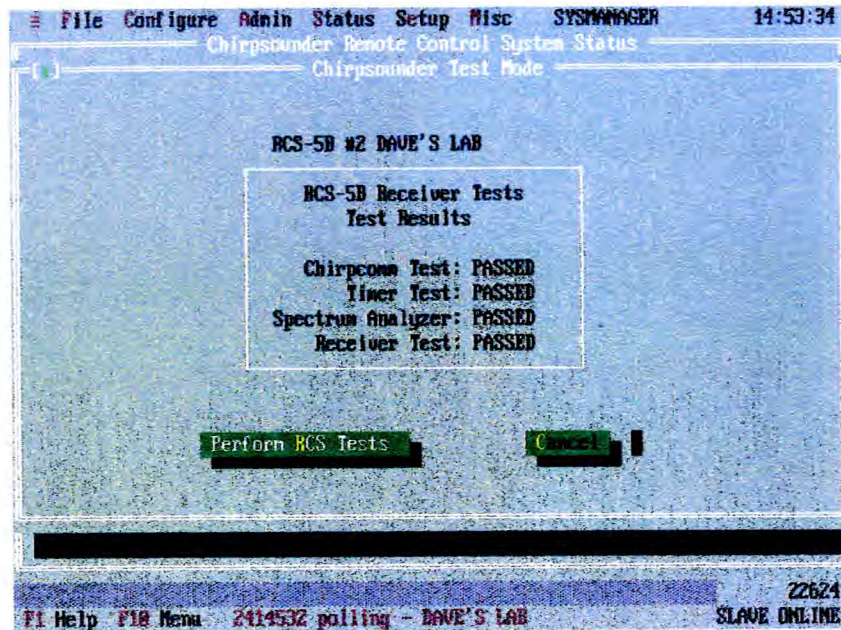

Fig 59
2.2 On successful completion of the tests, the screen shown in Fig. 59 is displayed.